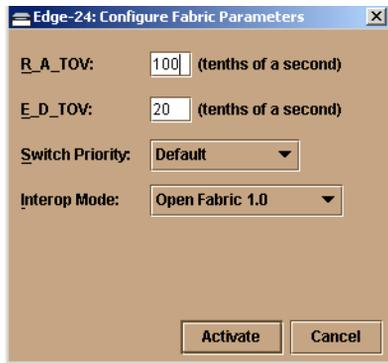

Figure 2–34: Configure Fabric Parameters dialog box
2. At the **Hardware View**, select **Configure > Operating Parameters > Fabric Parameters**. The **Configure Fabric Parameters** dialog box displays, as shown in Figure 2–34.